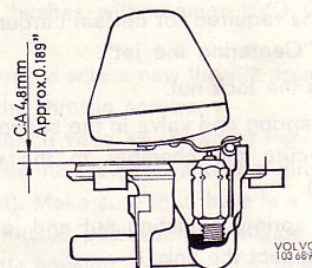

Fig. 114 Checking the float level
5. Check and secure the float valve, see Fig. 114.
This type of carburettor is relatively insensible to variations in the float level. To ascertain the correct level, check the position of the float according to the measurement given in Fig. 114.